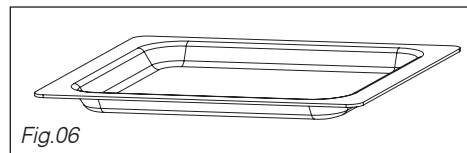

Fig.06
• **The glass drip tray (Fig.06):** It may be used half filled with water for "bain marie" cooking or fan cooking. It may be used as a cooking dish.